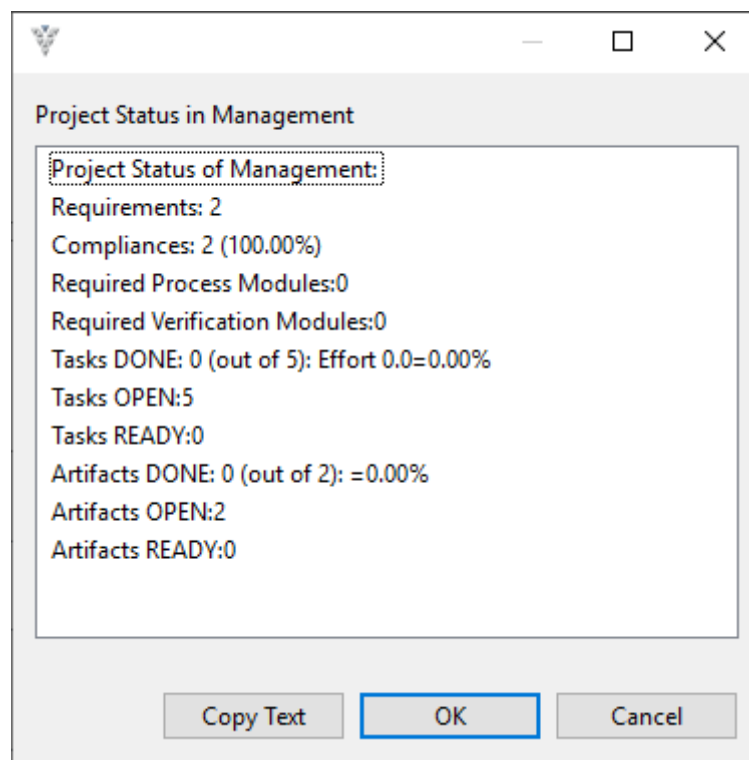

Figure 84: Initial Project Status (Overview)
This results into a textual description of the project status including the following information (see Figure 84):
- Effort Computation (and completeness): In case there are no efforts specified (value=0) status will contain warnings: "Could not compute effort for", see Figure 84.